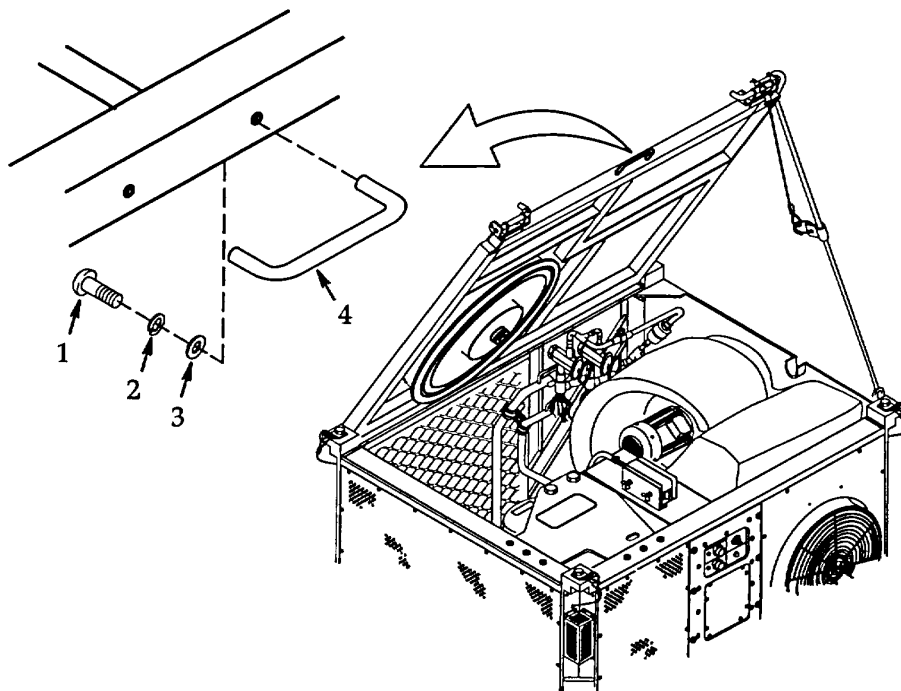

Figure 4-17. Handle.
a. **Removal.** See figure 4-17.
- (1) Shutdown the FDECU per paragraph 2.4.
b. **Installation.** See figure 4-17.
- (1) Install handle (4) and align mounting holes. Secure with two flat washers (3), new lock washers (2) and screws (1).
- (2) Lower and secure cover per paragraph 4.2.
- (3) Connect FDECU to power source and operate per paragraph 2.4.